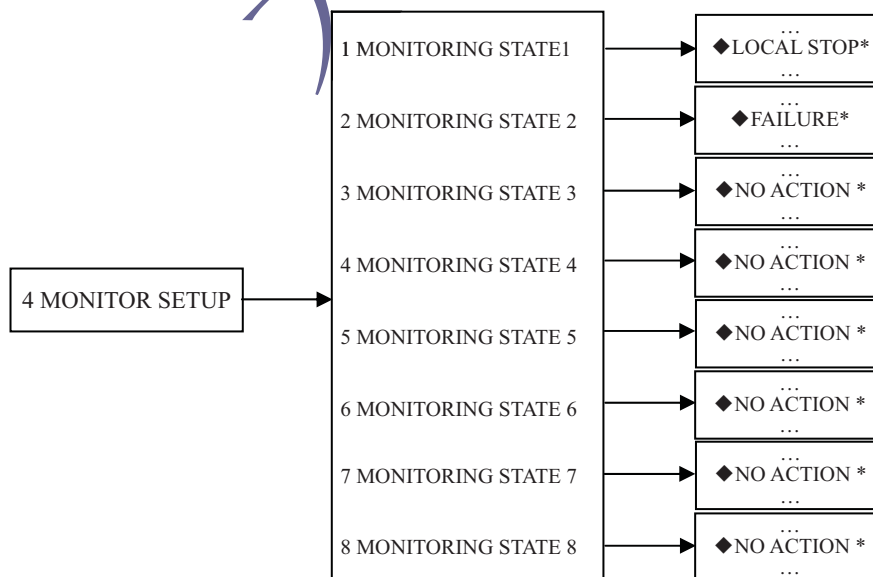

Fig.8
4.5 Monitoring setup (see Fig.8)